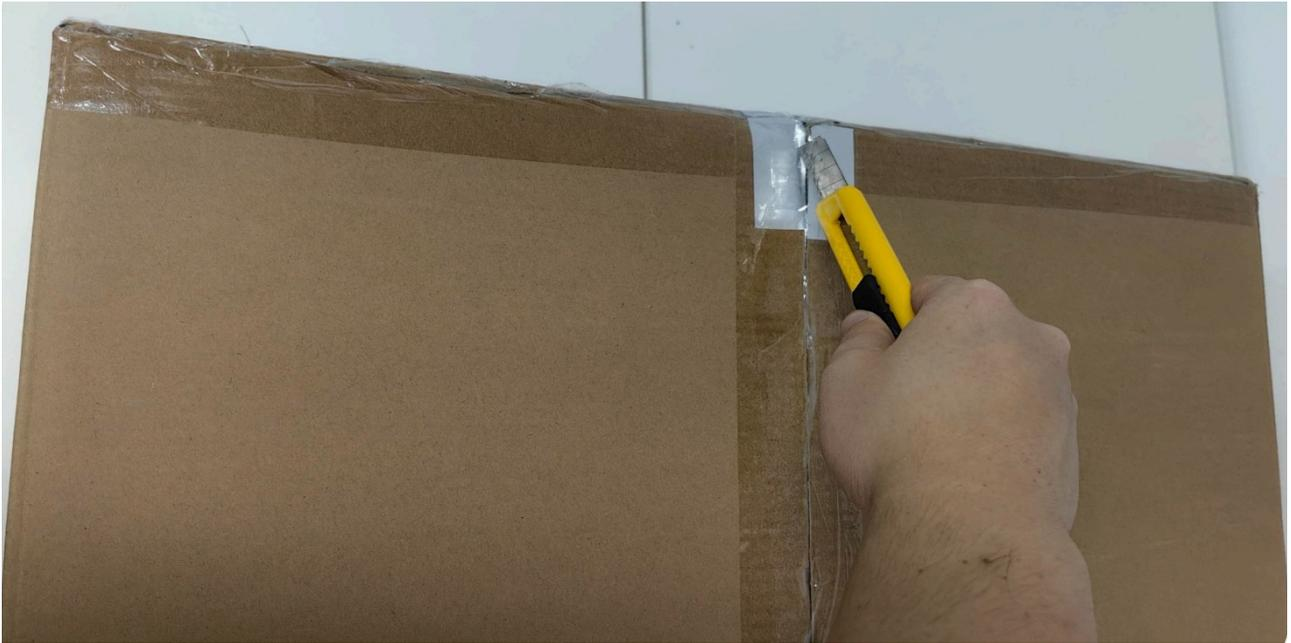

Figure 1-2
Step 2: Inspect the contents inside the box, as shown in Figure 1-2